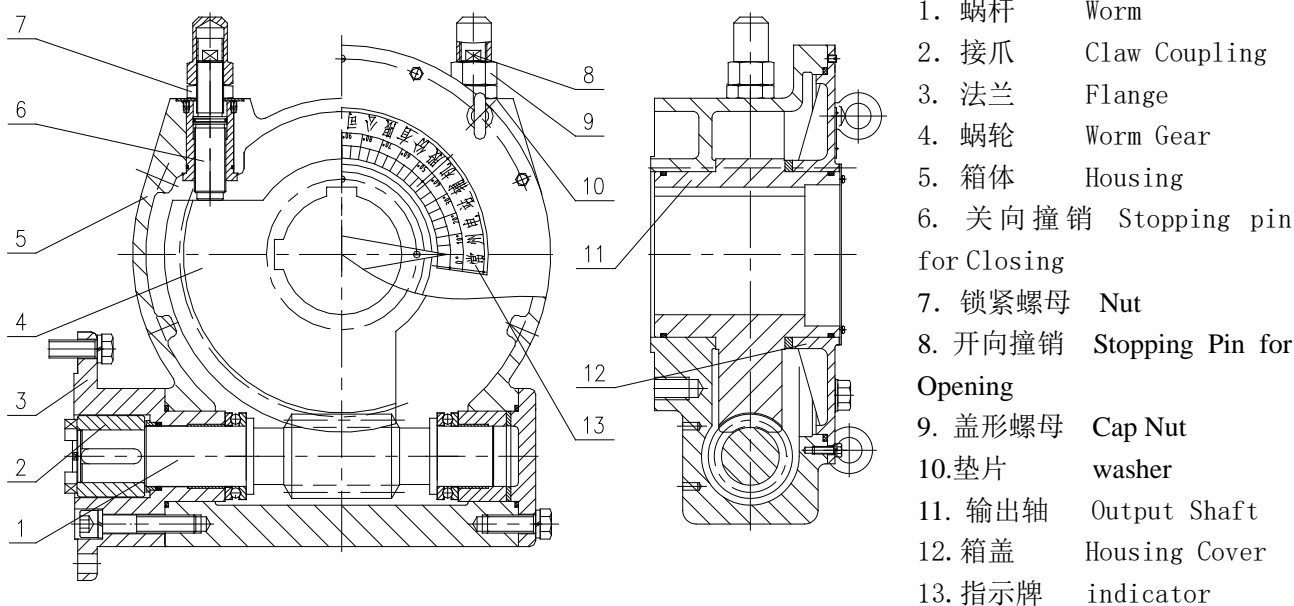

图 1. DJ 型叠加减速器结构简图 Fig.1 Scheme of Type DJ Reducer
The construction of type DJ reducer refer to Fig. 1, (The actuator of first stage see corresponding instruction manual). To adjust the two pins of 6 and 8 can regulate accurately start position and stop position of output shaft.
1. 阀门的全开、全关位置若由行程机构或力矩机构来控制, 则在调整行程或力矩之前需旋松机械限位(即图 1 中的撞销)。